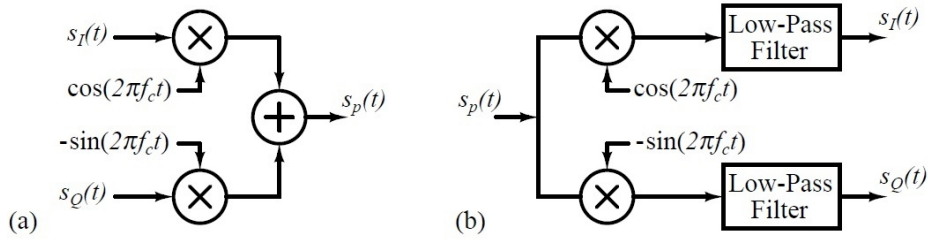

Figure 1: Flowgraph of (a) an IQ modulator, and (b) an IQ demodulator.
- (a) **Carrier Feedthrough:** The multipliers shown in Fig. 1 are implemented using double-balanced mixers (recall Experiment 3). Recall that a single-balanced mixer always has the carrier frequency component at the output, but ideally it is zero in case of a double-balanced mixer, i.e. when the carrier frequency outputs from the two switching pairs perfectly cancel each other. However, DC offsets or device mismatches lead to improper cancellation and the appearance of the carrier frequency component at the double-balanced mixer output as well, as shown in Fig. 5a. This is called LO or carrier feed-through.